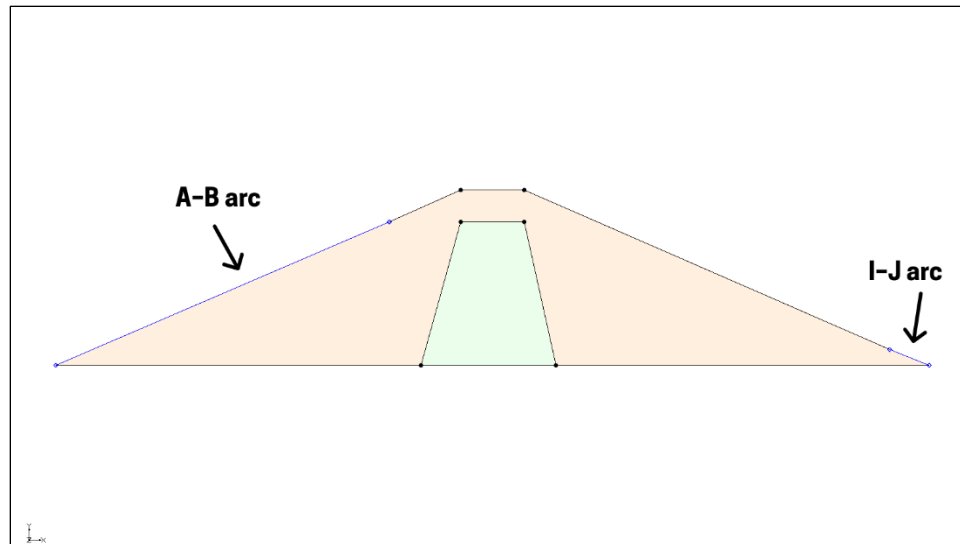

Figure 6 Specified-head boundaries
1. Using the **Select Arcs**  tool, double-click on the A–B arc on the left side (Figure 6) to bring up the *Attribute Table* dialog.
5. Repeat steps 1–4 with the I–J arc on the lower right side (Figure 6), entering “2.0” in the *Head (m)* column.
The arcs will now be blue, indicating they have specified-head boundary conditions (Figure 6).